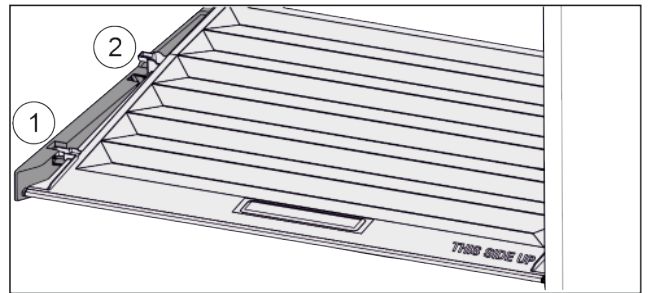

Fig. 35
- ▶ Pull the lid up at the front to the opening in the retaining parts Fig. 35 (1).
- ▶ Lift from the back and pull it up and out Fig. 35 (2).